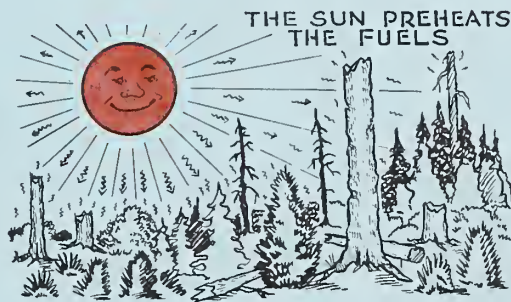

Figure 6.
3. Temperature. Air temperature affects firefighting. Fuels preheated by the sun burn more rapidly than do cold fuels (figure 6). The temperature of the ground also affects the movement of air currents, as explained previously.